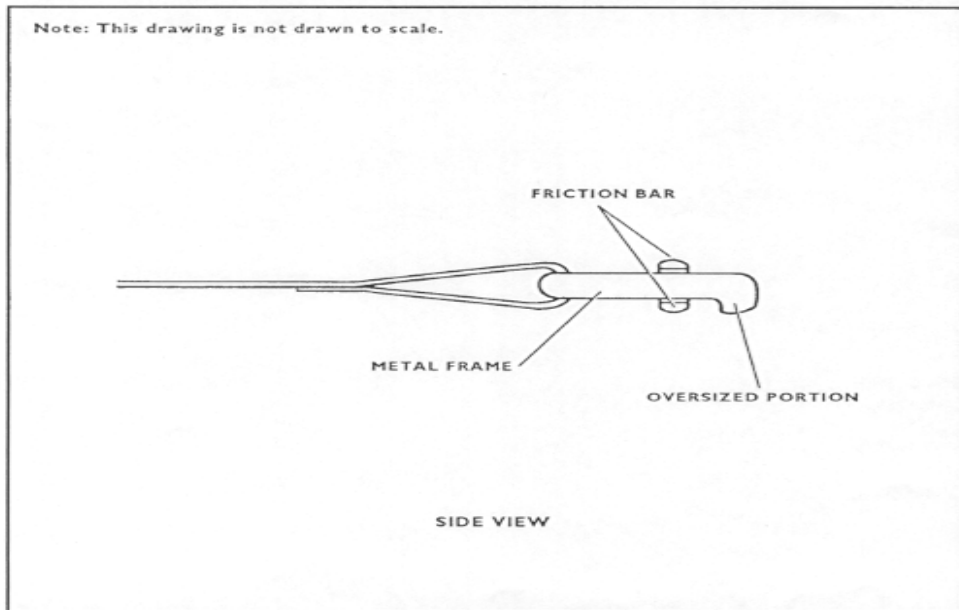
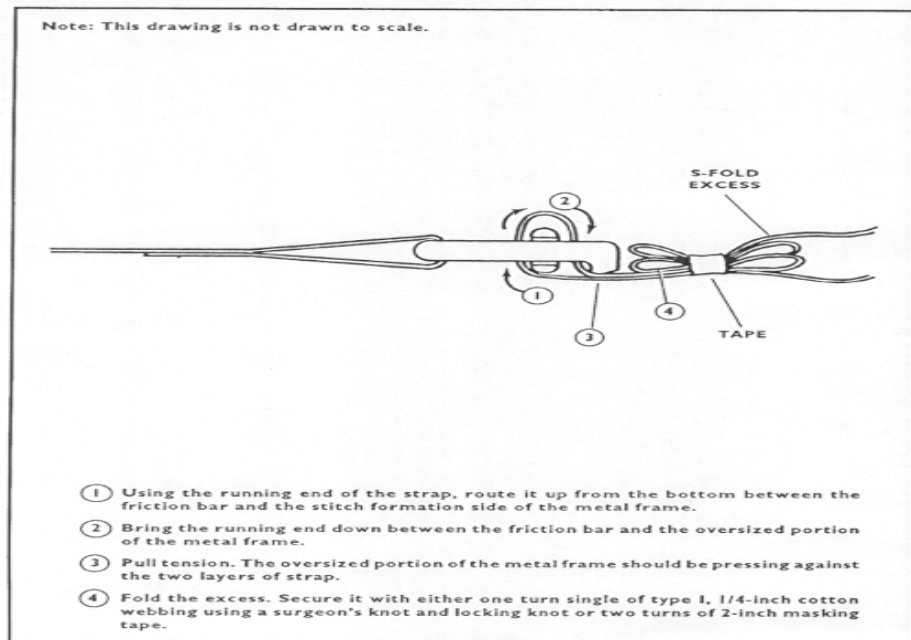

Figure 6-4. Friction Adapter
Figure 6-5. Leg Strap
(2) New Light Weight SPIE Harness (Figure 6-3). To don the SPIE harness, pass arms through the respective shoulder loops ensuring the chest adaptor is to the wearers left. Route the free end of the chest strap through the chest adaptor making sure the strap is back laced through the chest adaptor for a quick release system. In accordance with Figure 6-4 make sure the oversized portion of the leg strap friction adaptors are down against the body and route the led straps through the leg strap friction adaptors in accordance with Figure 6-5, tighten leg straps to fit and stow excess in the leg strap retainers.